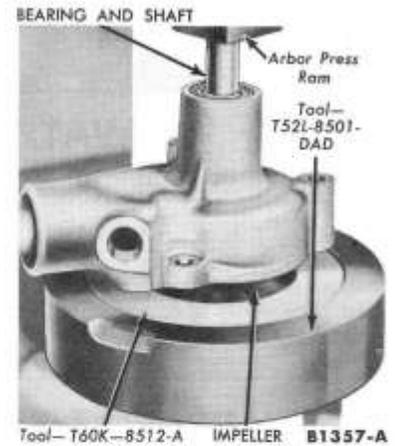

FIG. 8—Impeller Installation
6. Lightly coat the seal rubbing face of the impeller with grease, then press the shaft into the impeller (Fig. 8). Press the shaft into the impeller just far enough so that the pump housing lightly touches the face of the adapter ring. If excessive pressure is exerted on the shaft after the rear face of the housing contacts the adapter ring, the pump bearing will be damaged. The impeller to pump body clearance should be 0.005-0.025 inch after the impeller is installed.